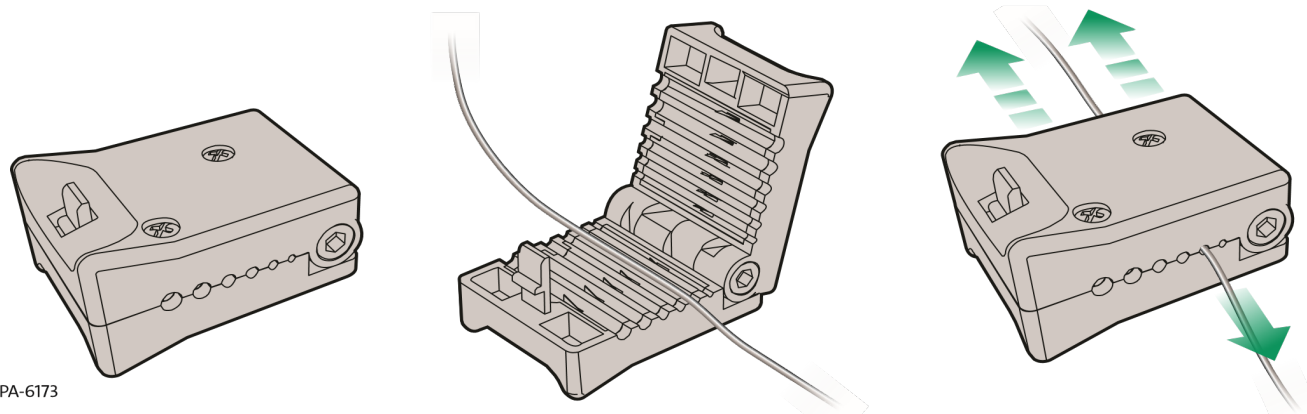

Figure 23
**Step 1:** Insert the buffer tube into the correct groove for the buffer tube outside diameter (Figure 23).